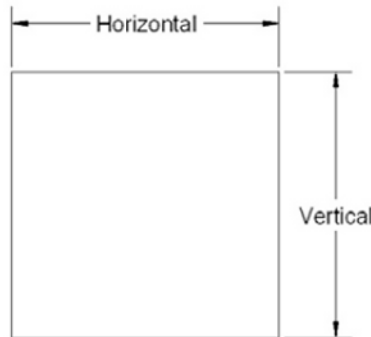

Figure 6.2 – Linear Dimensions
- **Linear Dimensions** – These are any dimensions that are strictly horizontal or vertical (Figure 6.2).
Create a small to medium size rectangle or square as seen in Figure 6.2 and begin the linear dimension command via any of the above methods.